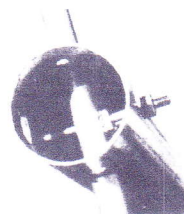

figure 2a
- 2) Install 2 of the 1/2" dia x 18" long rod support brackets in one end of an A-type boom section. Refer to figures 2a & 2b. Secure in the boom section with 10-32 X 2 1/2" bolts, nuts and lock washers.